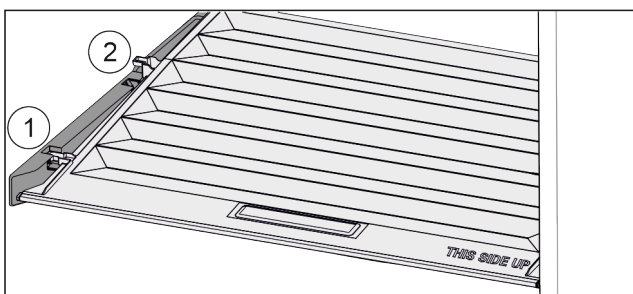

Fig. 101
- ▶ Pull the lid up at the front to the opening in the retaining parts *Fig. 101 (1)*.
- ▶ Lift from the back and pull it up and out *Fig. 101 (2)*.